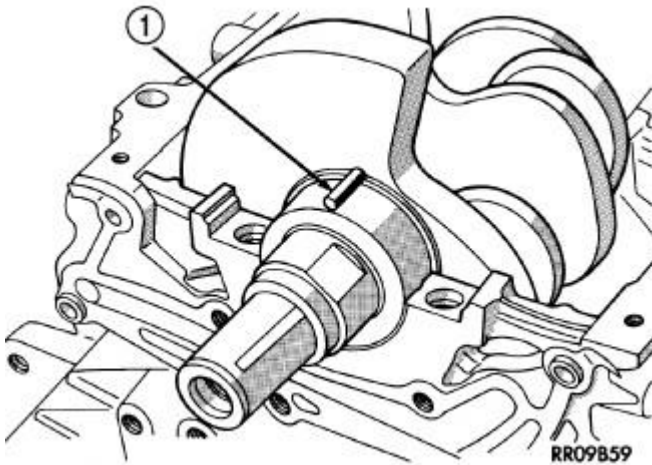

Fig. 6: Plastigage Placed In Lower Shell
2. Place a piece of Plastigage across the entire width of the bearing shell in the cap approximately 6.35 mm (1/4 in.) off center and away from the oil holes. Refer to **Fig. 6**. (In addition, suspected areas can be checked by placing the Plastigage in the suspected area). Torque the bearing cap/bed plate bolts of the bearing being checked to the proper specifications.